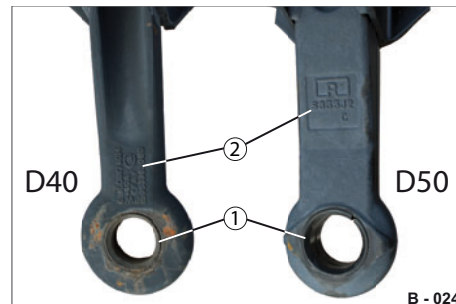

Fig. 28 Towing eyes with wear bushings
- Only replace a worn/deformed towing eye with an original spare part - see label (Fig. 28/2) on the towing eye.